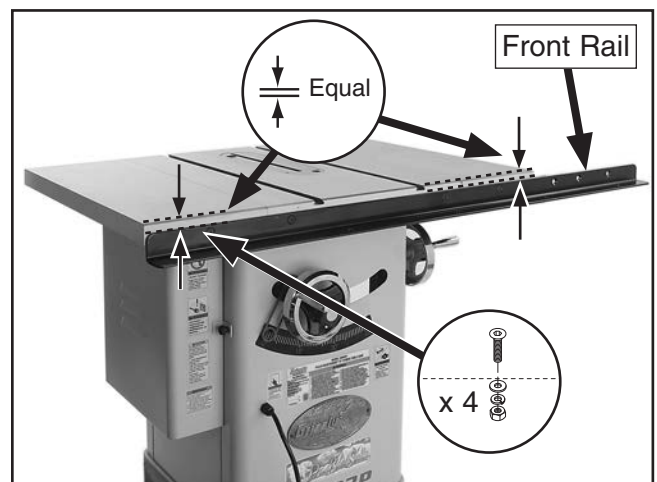

Figure 23. Front rail installed.
9. Attach front rail to table and extension wings with (4) M8-1.25 x 35 flat head screws, 8mm flat washers, 8mm lock washers, and M8-1.25 hex nuts, as shown in **Figure 23**. Make sure top of rail is parallel with table top before fully tightening fasteners.